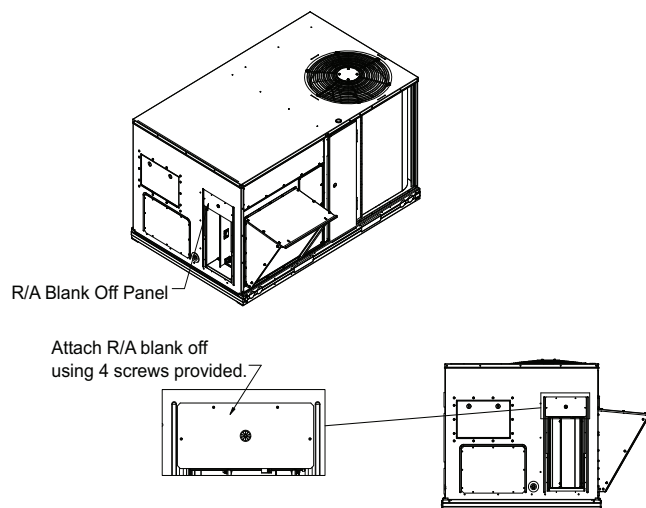

Fig. 7 — Attach R/A Blank Off Panel
11. Attach R/A blank off panel. (See Fig. 7.) Grommet must be installed before duct work is installed.